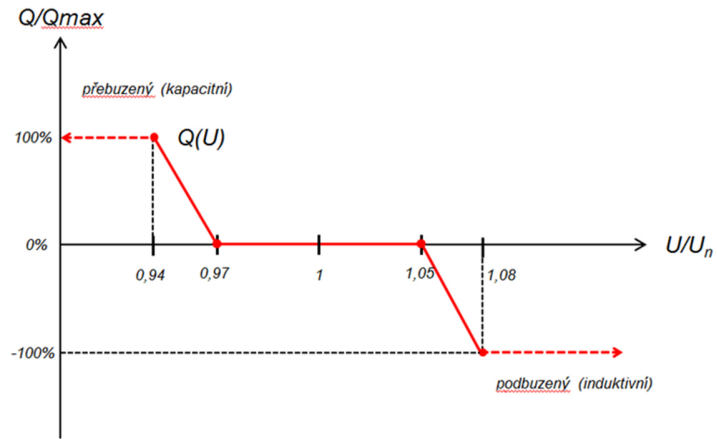

Figure 2
- Q(U) function can be set to the values of figure 2 by following the service manual.